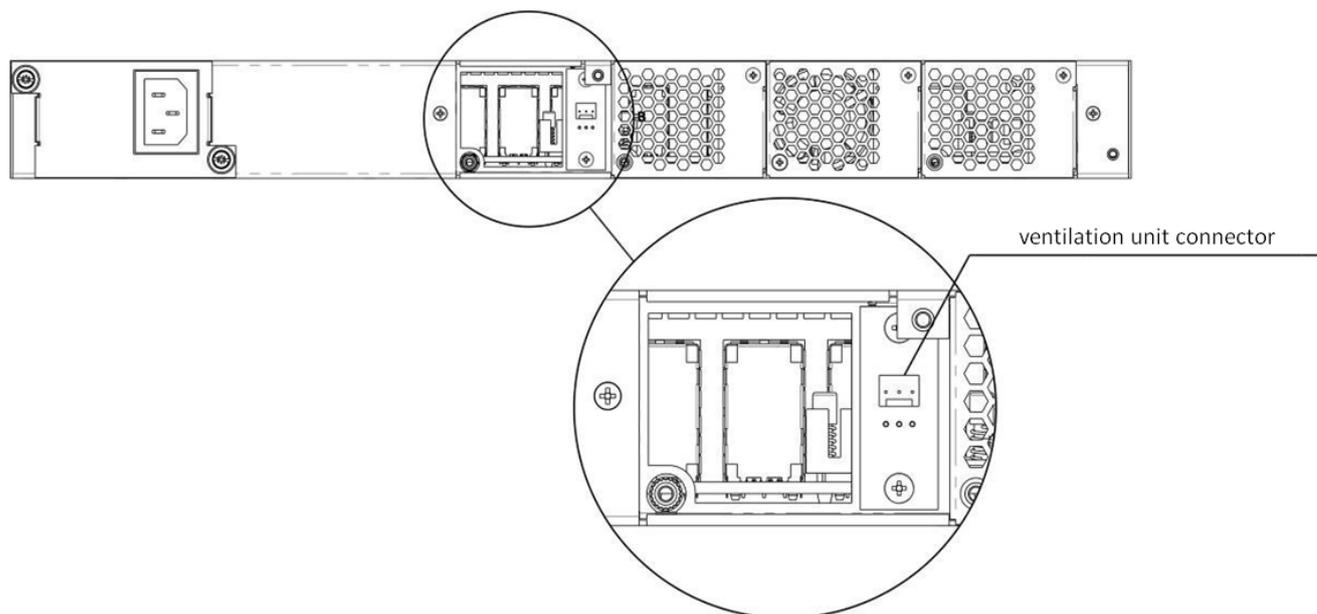

Figure 53 – Ventilation unit socket
- **Step 3.** Disengage the pins of the unit from the connector in the device (see Figure 53).
- **Step 1.** Connect the pins of the unit with the connector in the device (see Figure 53).